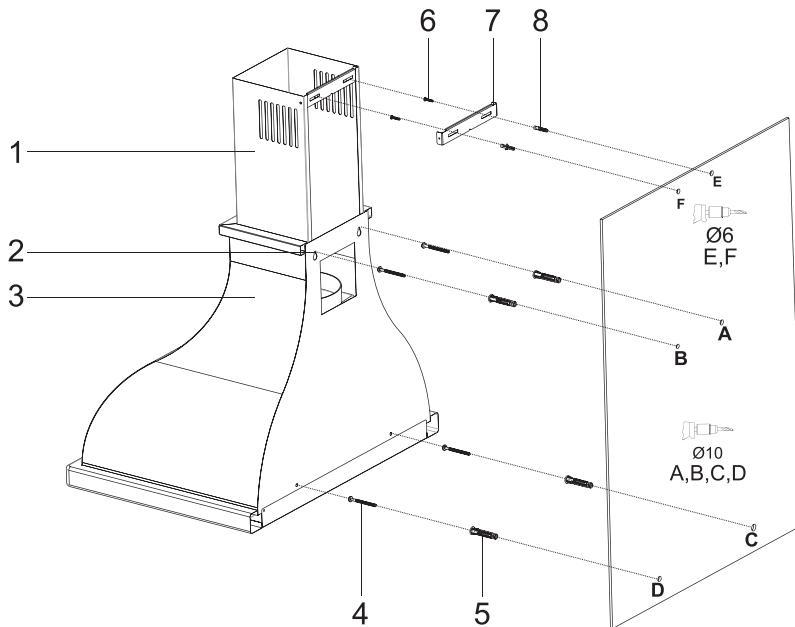

Fig. 10: ASSEMBLY INSTALLATION AND COMPONENTS
- Affix the assembly pattern on the wall, at the specified height (See the minimum and maximum distances intended for the worktop, in the assembly pattern). Drill holes A, B, C and D (Fig. 10).
- Insert Ø10mm wall plugs (5) into the holes drilled as A, B, C and D, and screw down the screws (4) at the points A, B, C and D, in such a way as to remain 5mm space between the screw head and the wall (Fig. 10).
- The cooker hood is set in the midst, and then the flue connecting plate (3) is directly affixed to the wall, under the cover or points E and F are marked after performing a measurement. (Fig.10)
- Drill points E and F with Ø6mm drill bit, and insert Ø6mm and plastic dowels. Insert the flue connection plate with 3.9x22 screws (Fig.10)